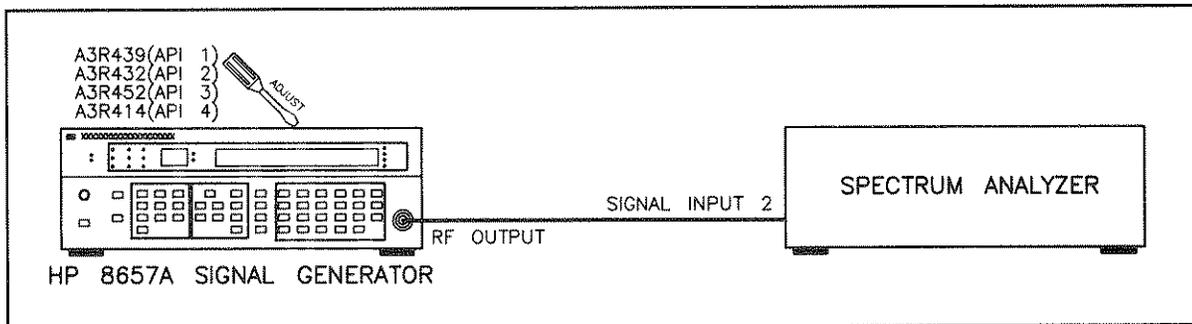

Figure 5-17. API 1, 2, 3 and 4 Adjustment Setup
3. Connect the RF OUTPUT of the Signal Generator to the spectrum analyzer SIGNAL INPUT 2 as show in Figure 5-17.